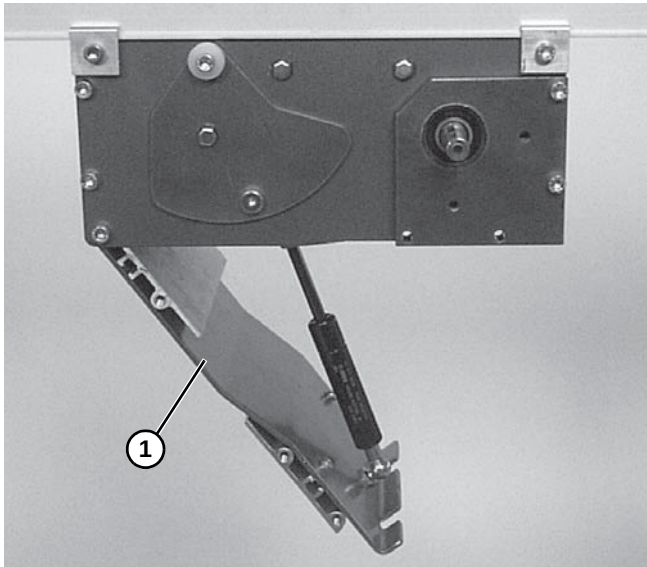

Figure 34
9. Carefully close the drive module tension door (**Figure 34, item 1**). See WARNING.